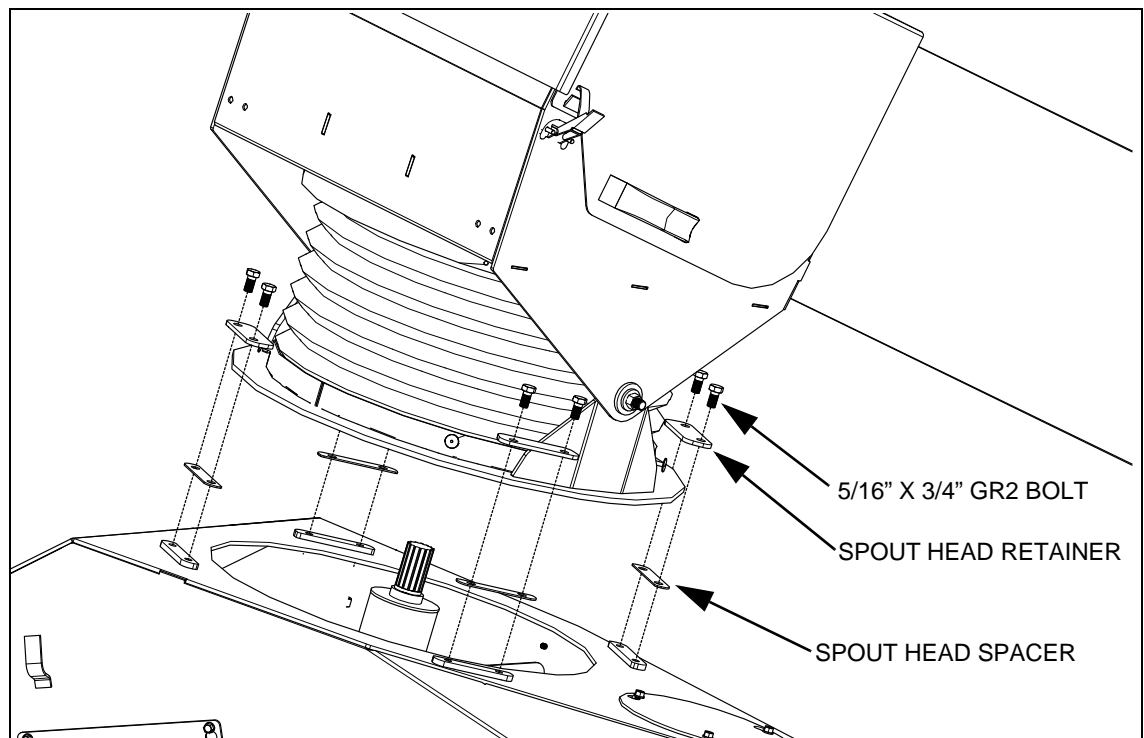

Figure 3.36 Connecting the Spout Head to the Boot
12. Install spout head spacers, followed by spout-head retainers, using ten $5/16"$ x $3/4"$ GR2 bolts (Figure 3.36).